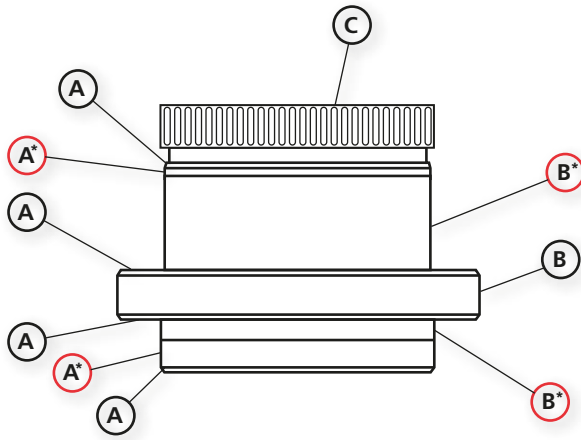
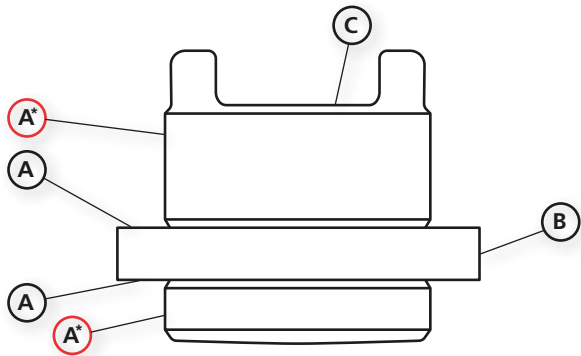

Figure 8 – Splined output sleeve, important surfaces
Figure 9 – HOB3 dog drive output sleeve, important surfaces
The output sleeve (14) can be easily removed from the gearbox by first removing the spigot ring (15) from the baseplate (16). A small force may have to be applied to the face marked 'C' in Figure 8 to assist in removing the output sleeve.
For all gearboxes, apart from HOB3, see Figure 8.
For the HOB3 gearbox, see Figure 9.
⚠ IMPORTANT: Before re-fitting the output sleeve after machining, check that the surfaces marked 'A' in Figure 8 and Figure 9 are not damaged. Damaged surfaces can break the gearbox seals or bearings and cause water ingress or grease leakage.
An anti-friction compound containing molybdenum disulphide, such as MI-Setral-9M, should be applied to the faces marked with an asterisk '*' in Figure 8 and Figure 9 before inserting the output sleeve back into the gearbox. For clarification on the suitability of an anti-friction compound, please contact Rotork.
⚠ IMPORTANT: Before fitting the output sleeve, check that the surfaces marked 'A' in Figure 8 and Figure 9 are not damaged. Damaged surfaces can break the gearbox seals or bearings and cause water ingress or grease leakage.
An anti-friction compound containing molybdenum disulphide, such as MI-Setral-9M should be applied to the faces marked with an asterisk ‘*’ in Figure 8 or Figure 9 (whichever is applicable), before inserting the output sleeve back into the gearbox. For clarification on the suitability of an anti-friction compound, please contact Rotork.